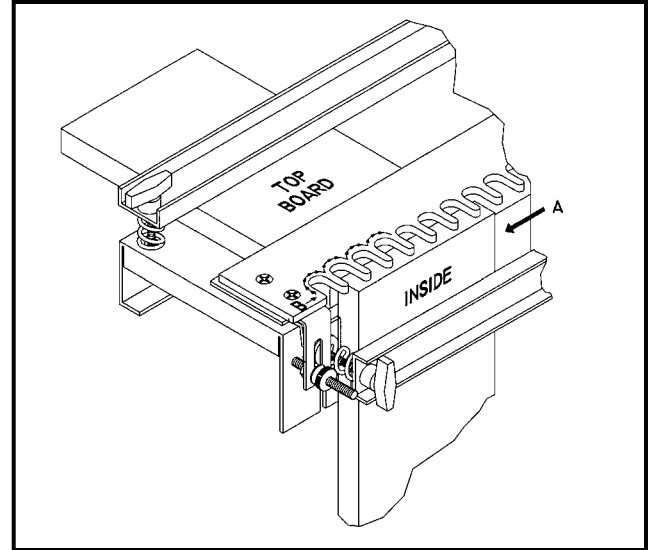

Fig. 9
4. Start the motor and make the first cut along the entire outside edge of the finger templet, from right to left, in the direction of the arrow (A) Fig. 9. This will prevent chipping of the edge of the drawer piece when the router is moved in and out of the templet.
5. Now, carefully move the router from left to right around the templet outline, in and out of the slots as shown by arrow (B) Fig. 9.